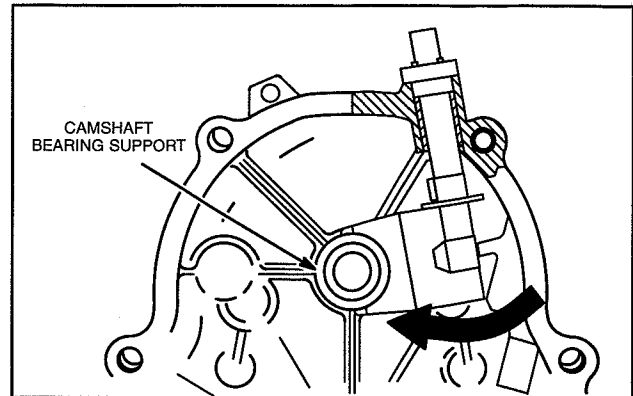

Fig. 6 – Rotate Governor Shaft
1. Rotate governor shaft so that paddle rests against camshaft bearing support, Fig. 6.